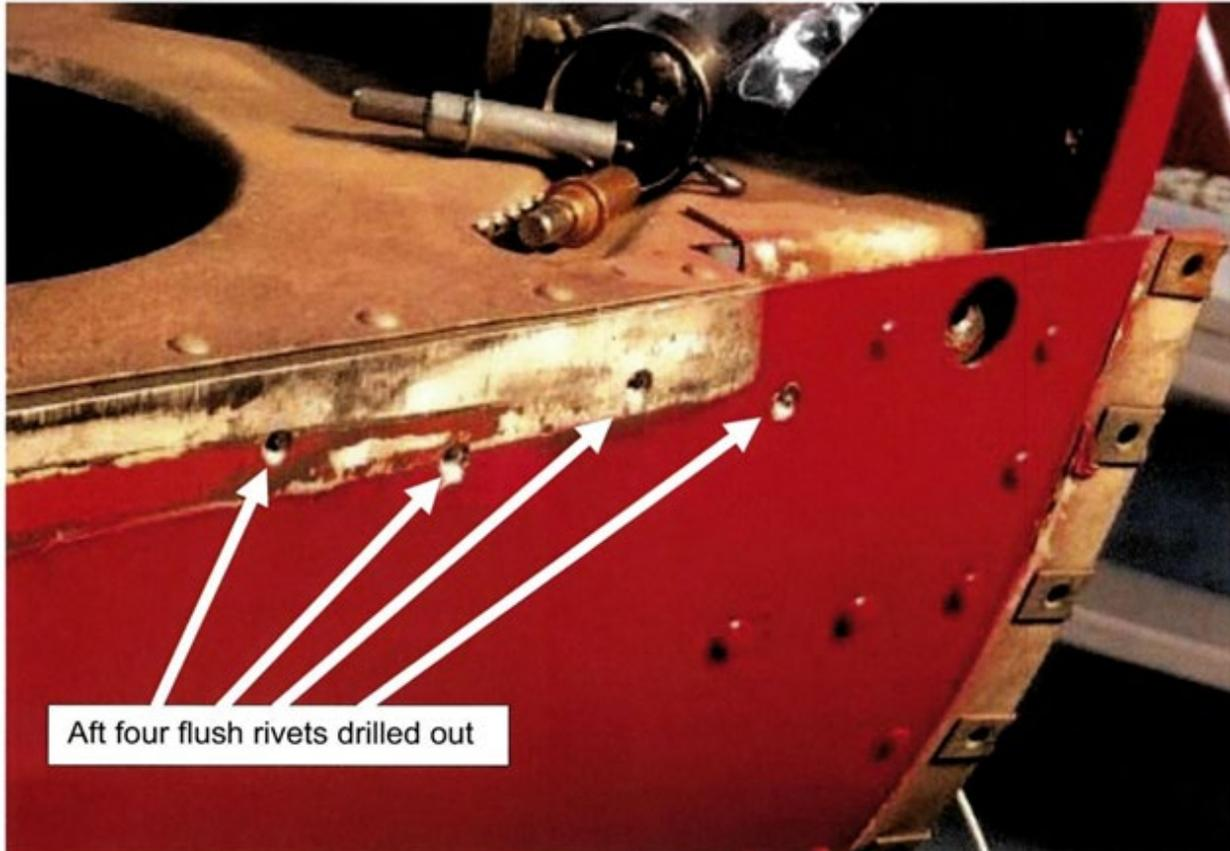

Figure 8: Aft four AN426AD-4 rivets drilled out
2. Starting on the left-hand side of the aircraft, drill out the far aft (4) AN426AD-4 (small flush) rivets of the tail cone reinforcement angle with a #30 drill bit. Be careful not to oblong the rivet holes. You may want to start out with a smaller #40 drill bit and then work your way up to a #30 drill bit. The aircraft should now look like Figure 8.